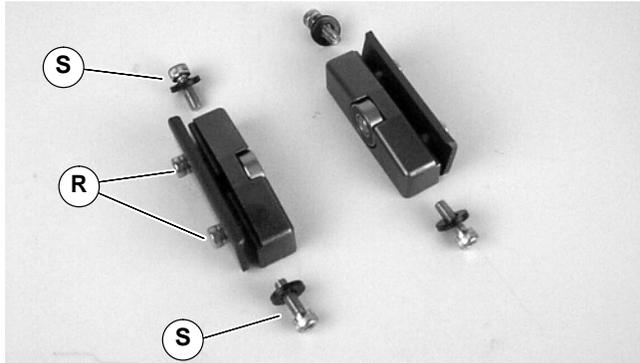
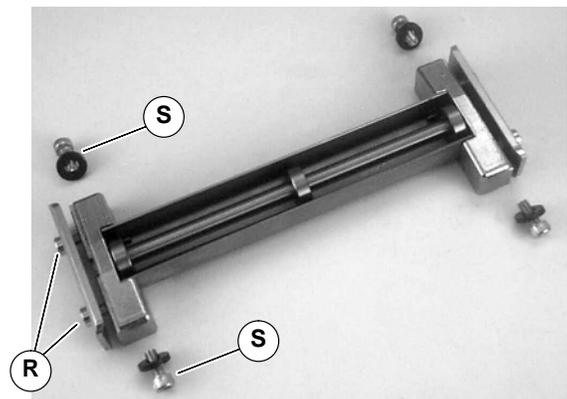

Figure 14
Figure 17
- Loosen, do not remove, bracket screws (R of Figure 14). Remove mounting screws and washers (S).
- Assemble components (Figure 17). Loosen, do not remove, bracket screws (R of Figure 14). Remove mounting screws and washers (S).